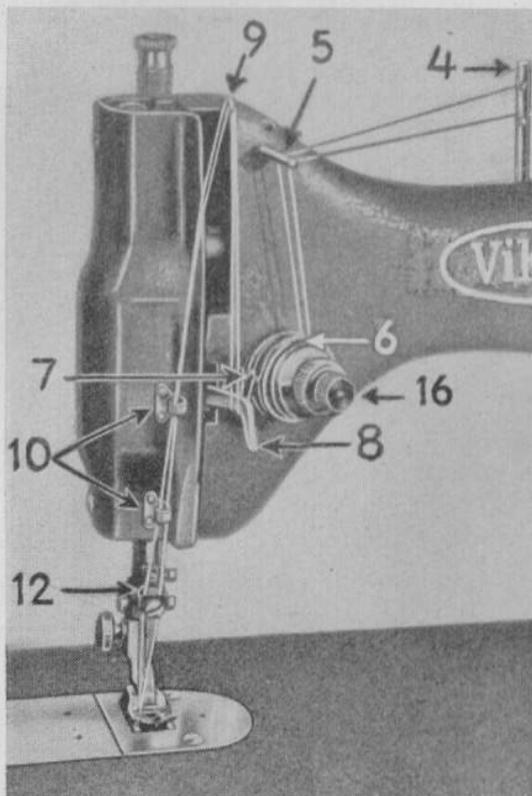

FIG. 9
Bring thread take-up lever (9), fig. 9, to its highest position by turning handwheel toward you. Place a spool of thread on the left hand spool pin of the spool holder. Pass the thread through the guide holes in pin (4) and thread guide (5) from right to left. Pull it downward to white tension discs (6) and around them from right to left. Guide it upward and to the left over the crotch of the thread take-up spring (7), then down again and from right to left around the underside of slack thread regulator (8). From there lead the thread upward to the eye at the tip of the thread take-up lever (9) and through same from right to left, downward through thread guides (10) and the thread guide in the needle clamp (12). The thread is then passed through the eye of the needle from front to back. Pull about 3—4 inches of thread past the eye of the needle.
Fig. 9 shows Viking "33" equipped with a 2-needle holder (page 28). When using this special equipment, machine is likewise threaded as described above with the second thread passing between the black set of tension discs.
To correct this, first make sure that the presser foot is let down, then turn tension regulator knob (16) fig. 9, to the right.